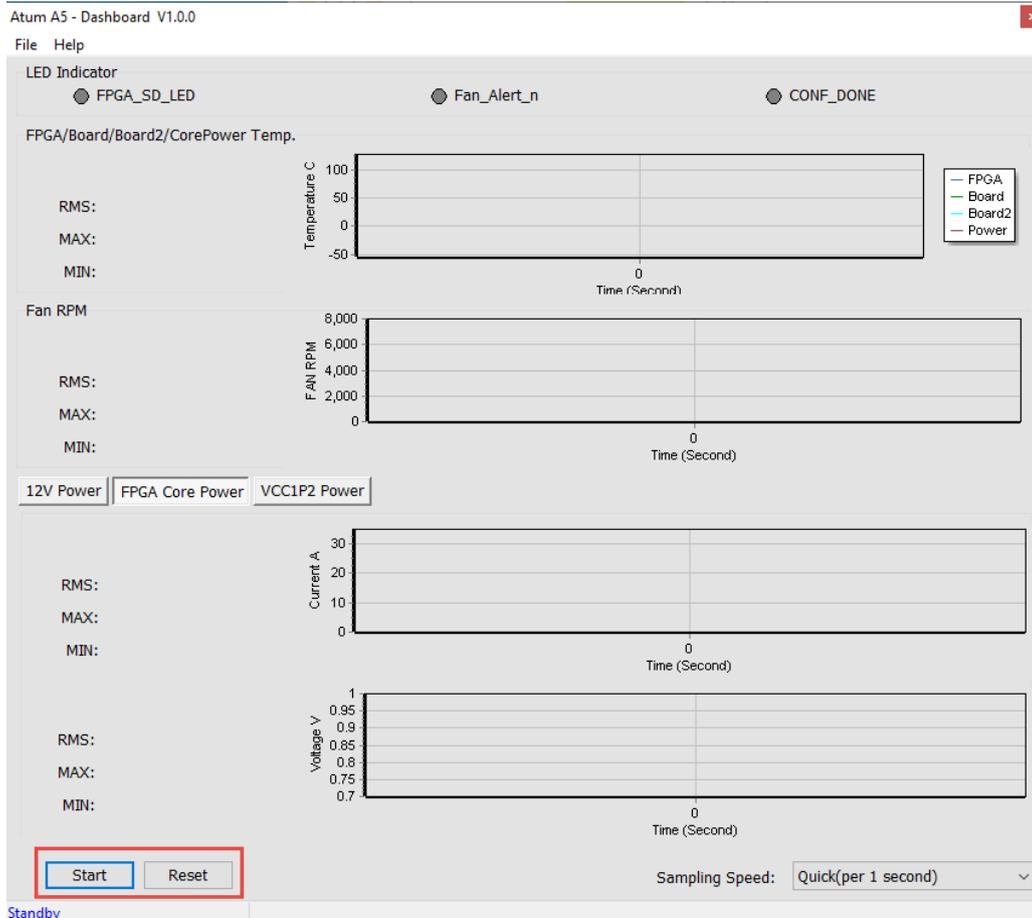

Figure 3-7 Start and Reset button
- **Start/Stop:** As shown in **Figure 3-7**, there is a **Start** button at the bottom-left of the GUI window. Click it to run the program (**Start** will change to **Stop**), it will show the Atum A5 board status. Users can press **Stop** button to stop the status data transmission and display.